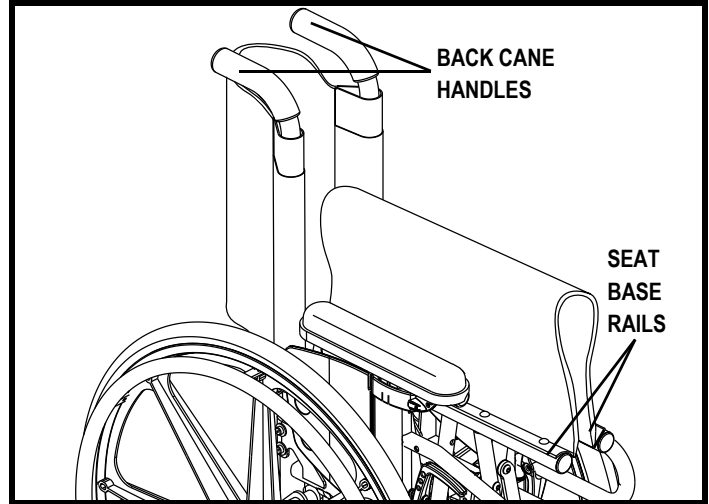

Figure 9. Lifting Points
2. With one hand, grab and squeeze together both back cane handles. See figure 9.